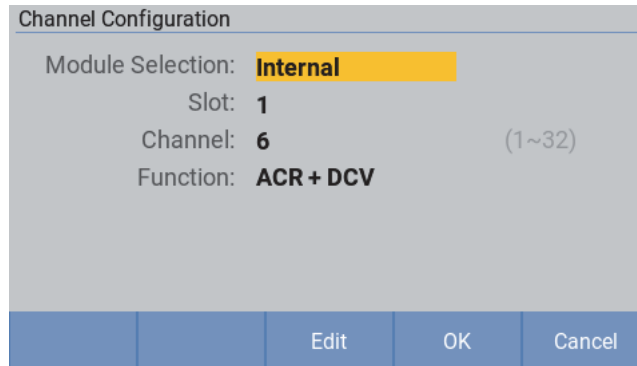

Figure 18. Channel configuration
2. The UI for configuring channels is shown in Figure 18, and the meaning of each option is shown in Table 11.